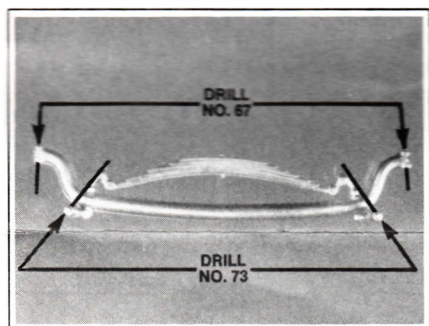

Figure 5
A. Drill the shock mounting holes all the way through the mounting horns with a .024" (No. 73) drill. Drill the kingpin holes with a .032" (No. 67) drill. See Figure 5.